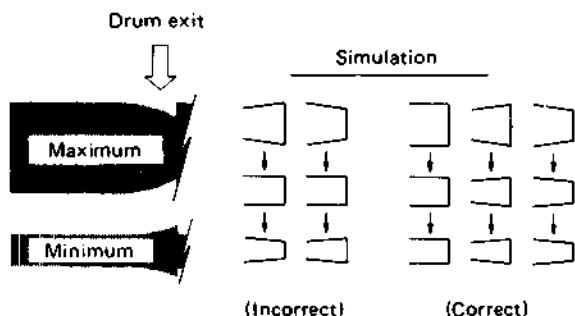

Fig. 1-6-3 Drum exit
- In the same manner as for the rising portion, turn the take-up guide roller to adjust the falling portion (drum exit) of the FM envelope. See Fig. 1-6-3.